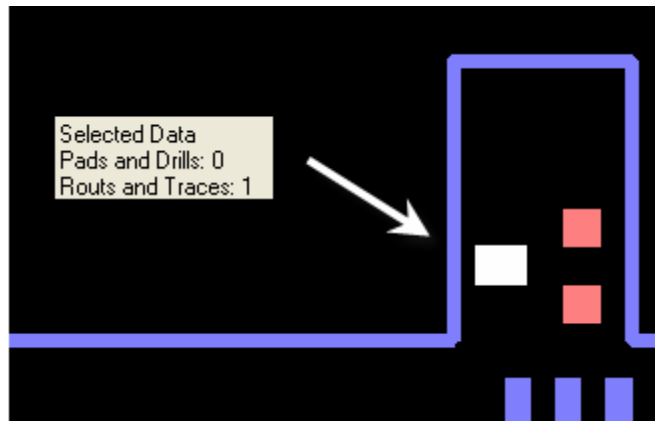

Figure 29
7. Run CAM > Advanced Scan and Replace, specify the replacement shape as "Rectangle/Square" then Press OK – See Figure 29: